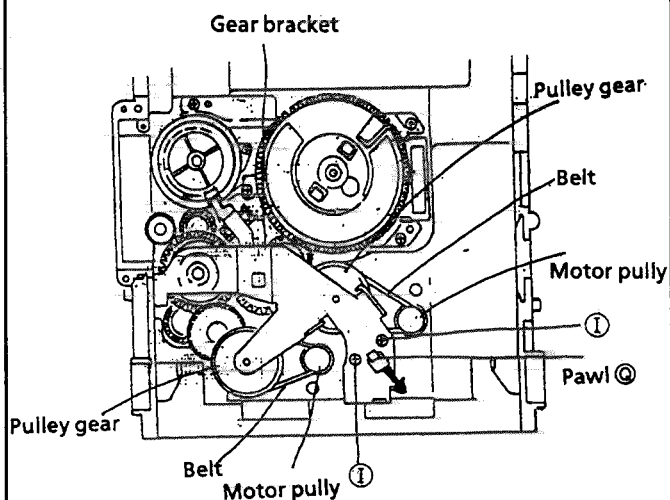

Fig. 2-18
(See Fig. 2-18.)
2. Press the pawl ㊟ securing the gear bracket to the arrow in the figure to remove the gear bracket. (See Fig. 2-18.)
4. Remove each belts from the both actuator motor pulleys and the pulley gears. (See Fig. 2-18.)